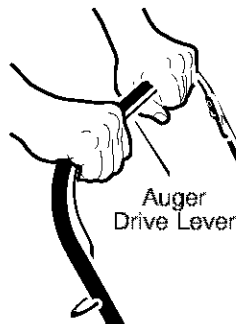

Figure 4
1. Hold the **auger drive lever** against the **handle** (See Figure 4). The auger will begin rotating.